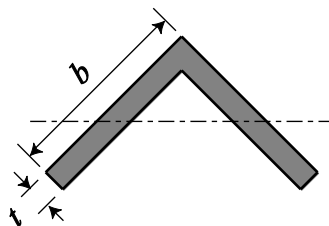

Figure 6
6. Show that $I = b^3 t / 12$ for the cross-section shown in Figure 6, when bending is about the “weak” axis. Assume that $t \ll b$.